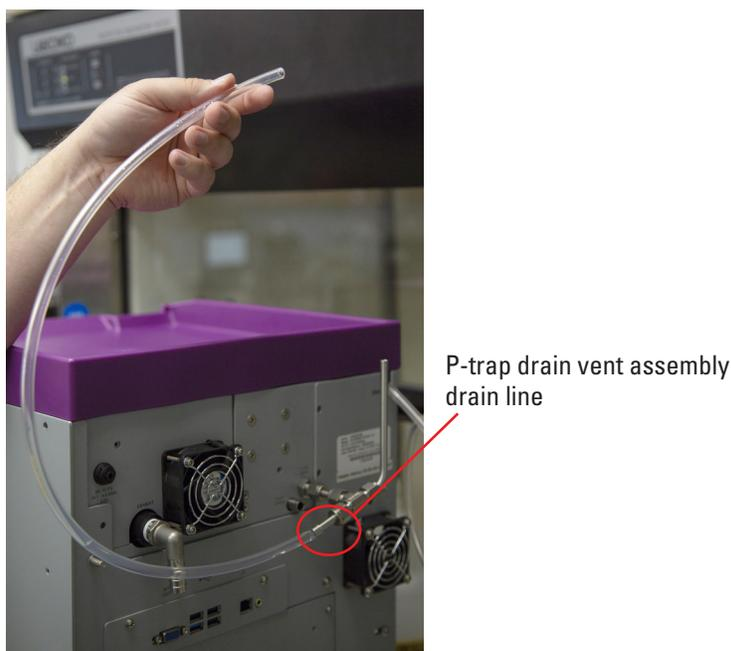

Figure 2-8 Keep liquid level lower than the top of the system
CombiFlash with optional ELSD only) The CombiFlash ELSD system has additional drains that must be connected (Figure 2-8):
5. Install the ELSD P-trap vent assembly found in the accessory package by placing the short tube into the port on the rear panel, orienting the vent as shown in Figure 2-8 and tightening the fitting nut finger tight plus a small amount more with a wrench. Be sure the P-trap drain vent assembly is oriented with the vent portion vertical.
6. The P-trap must be filled with fluid to prevent sample loss. To accomplish this, raise the drain tubing attached to the P-trap drain vent assembly above the instrument and place 10 mL of liquid, such as isopropyl alcohol, into the tube. Make sure the fluid level in the tubing doesn't exceed the level of the instrument case top. If the tubing is raised too fast, fluid may flow out the top of the vent tube causing a spill. Lift it high enough so the fluid enters the P-trap drain (Figure 2-8).